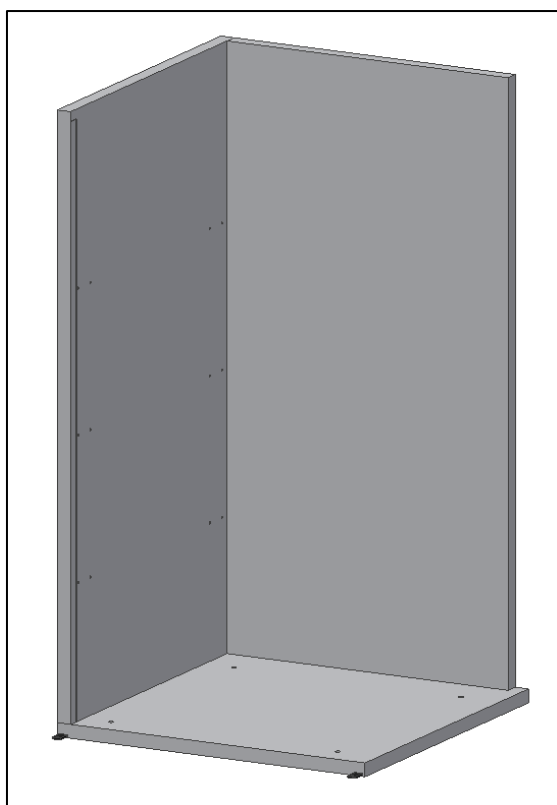

Fig. 4
- Fix the **left-side panel** to the panel of the bottom and fasten only the bottom (Fig.4).